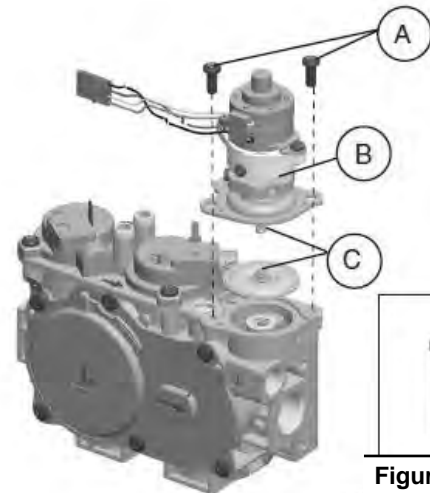

Figure 15.3.01:
- Pressure regulator assembly (E)
- Two (2) screws (F)
- Identification label (G)
2. See **Figure 15.3.01**. Using a Torx T20, or slotted screwdriver, remove and discard the two (2) pressure regulator mounting screws (A), pressure regulator tower (B), and the spring and diaphragm assembly (C), (if applicable).